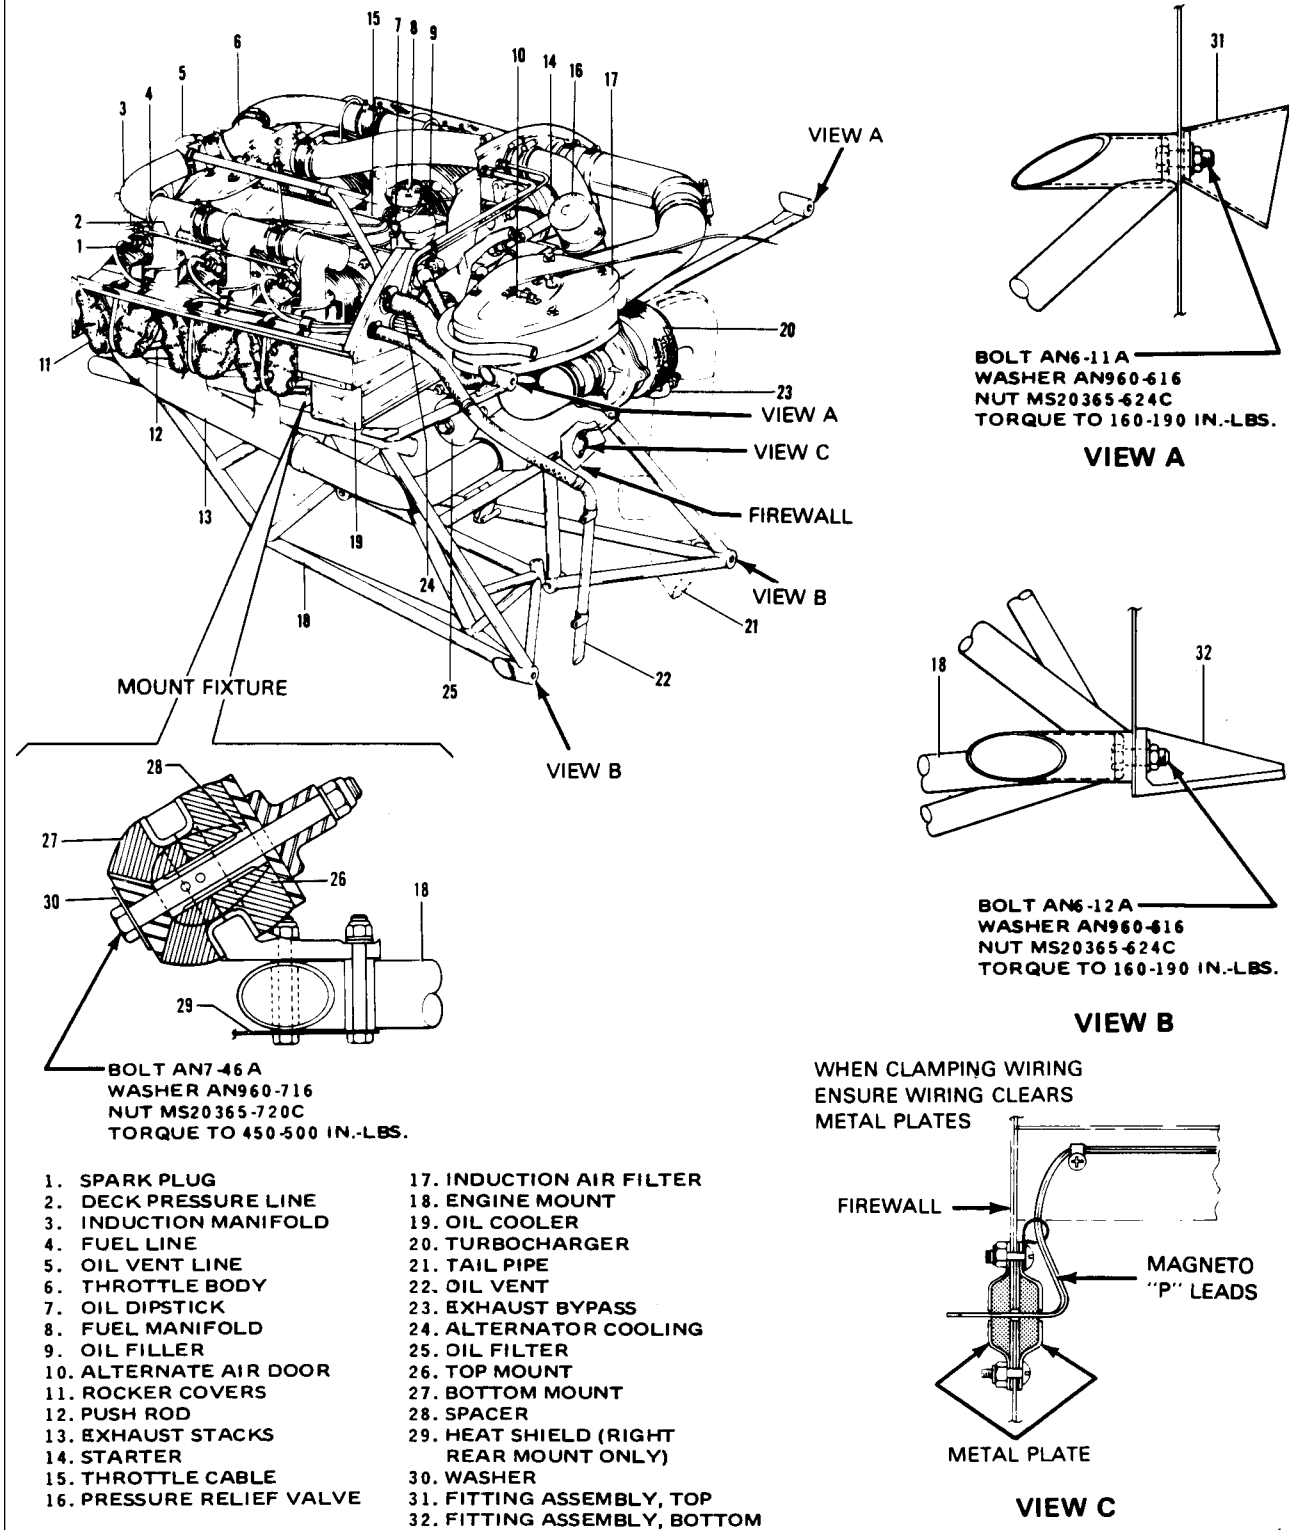

Figure 8-6. Engine Installation
### 8-18. REMOVAL OF ENGINE. (Refer to Figure 8-6.)
8-19. INSTALLATION OF ENGINE. (Refer to Figure 8-6.) Prior to installing the engine, be sure to install all items that were removed after the engine was removed from the aircraft
*Secure all cables, hoses and wires with clamps and Ty-strap in the same location as before removal. Make sure then clamping cables to ensure wiring clears all metal plates and free from forced chaffing against any sharp metal edges, see Figure 8-6.*
#### 8-21. REPLACEMENT OF ENGINE SHOCK MOUNTS. (Refer to Figure 8-6.)